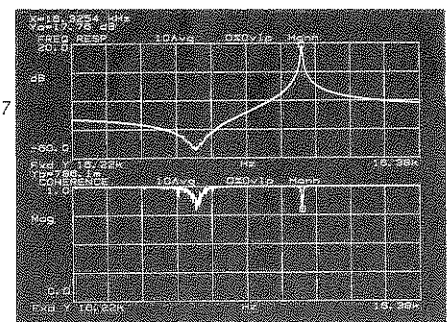

Figure 2-7
4. **Coherence** Press the **MEAS DISP** key, then select the **COHER** softkey to display the coherence function. The display should be similar to Figure 2-7.